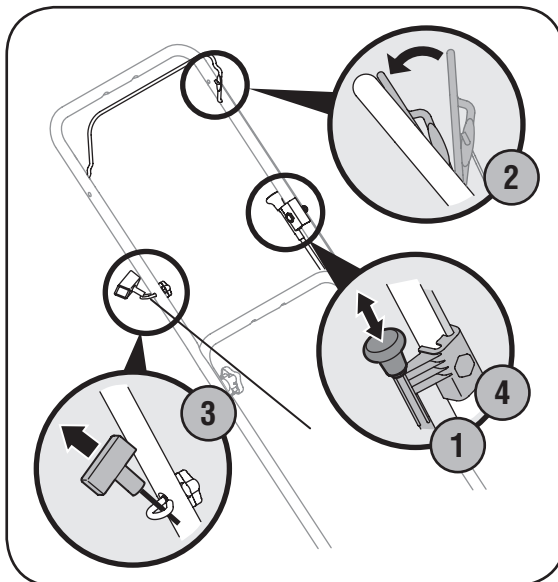

Figure 9-3: Starting the mower. (Your mower may differ from that shown)
1. Pull out the choke knob located on the left side of the upper handle. See Figure 9-3. Use of the choke may not be necessary if the engine is warm or the air temperature is high.
3. Pull the starter grip lightly until resistance is felt, then pull rapidly to overcome compression, prevent kickback, and start engine. Repeat if necessary. See Figure 9-3.
4. When engine warms up, push in the choke knob. See Figure 9-3.